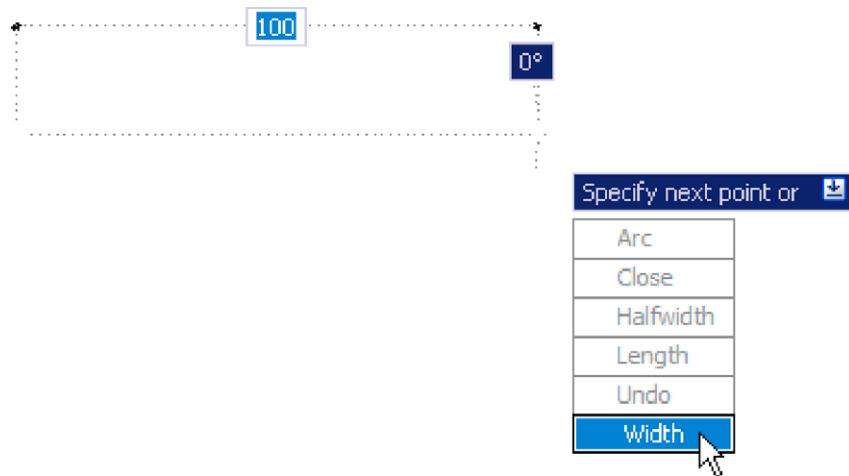

Fig. 3.26 Dynamic Input – first example – **Polyline** – click **Width** in the popup menu
3. Move the cursor and press the down key of the keyboard. A popup menu appears from which a prompt selection can be made. In the menu *click Width* (Fig. 3.26).